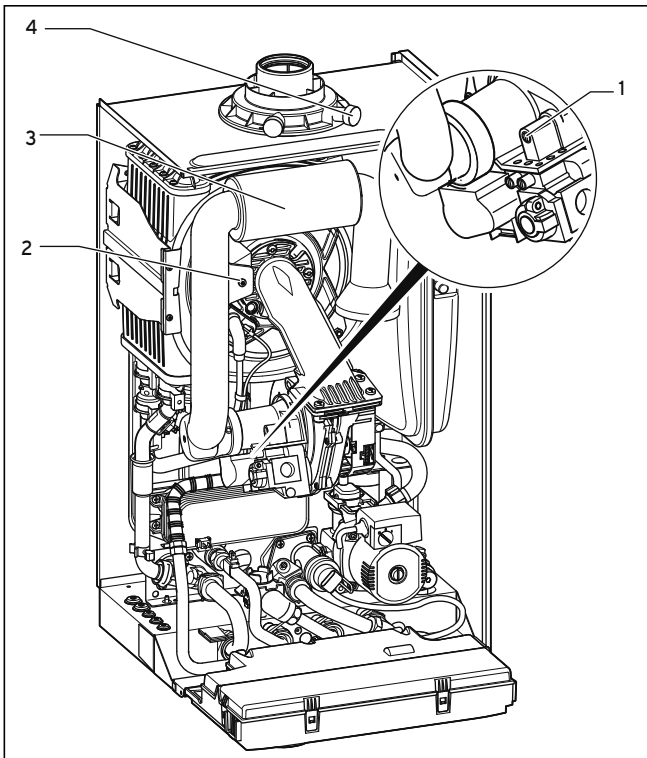

Fig. 7.1 Measuring the CO₂ concentration, specifying the air ratio (gas setting)
- unfasten the screw (Fig. 7.1, 2) and
- fold the air intake pipe (Fig. 7.1, 3) forwards through 90°. Do not remove the air intake pipe.
- Specify the required flue gas value if necessary (value with front casing of boiler removed, see Table 7.1) by turning the screw of the main throttle (Fig. 7.1, 1).